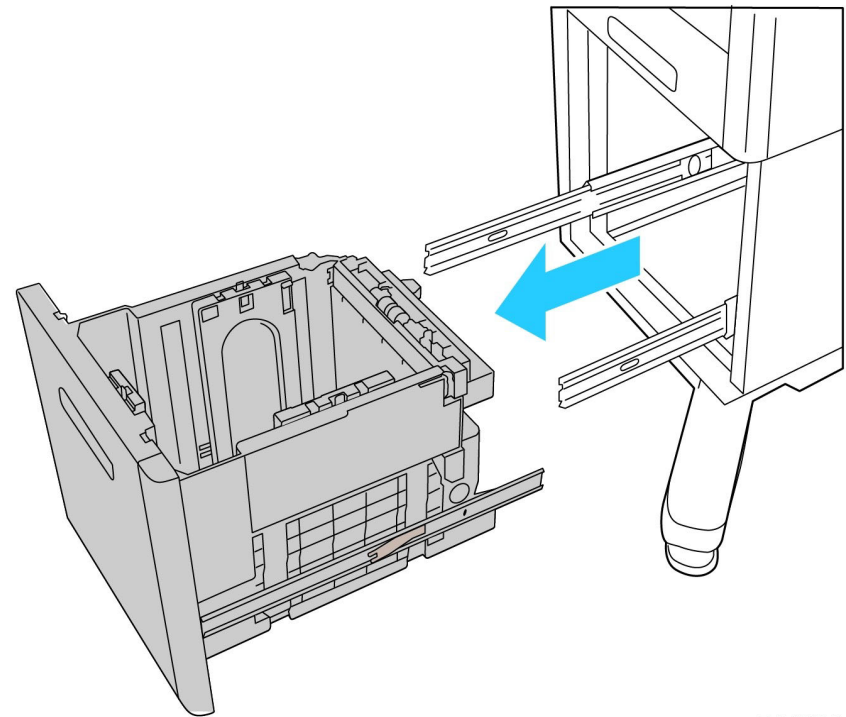

Figure 2 Installing the HCF feeder drawer
1. Push both side rails all the way into the cabinet, Figure 2.